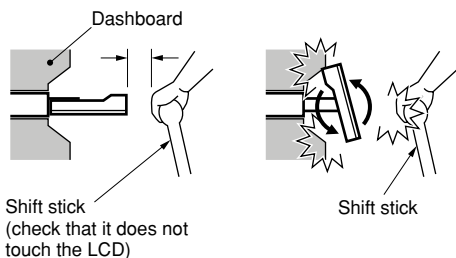

Figure 2
2. This model is used with the LCD panel slid forwards (shell loading system). On some types of cars, the LCD panel may touch the dashboard or shift stick, in which case it cannot be installed. Check that the set will not hamper operation of the shift stick before choosing the place of installation.(Figure 2)